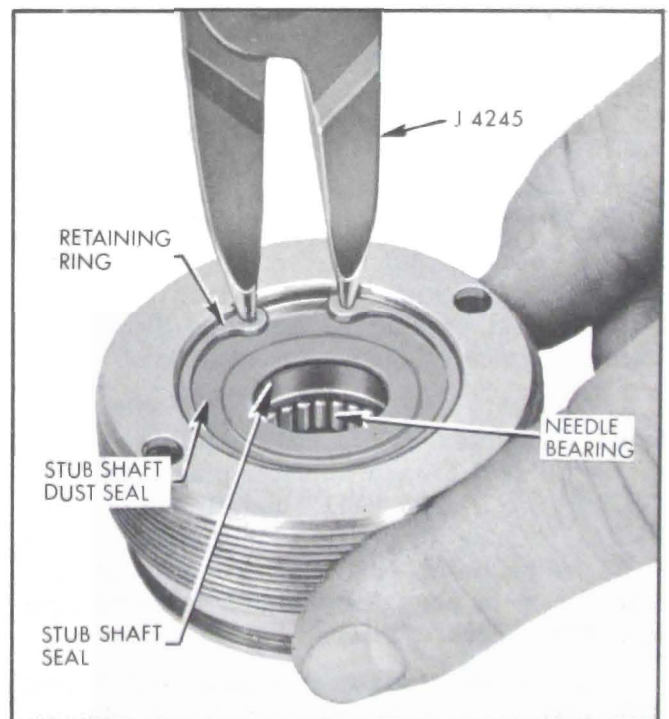

Figure 8-39—Removing Stub Shaft Seal Retaining Ring
3. Remove stub shaft seal retaining ring using No. 3 Truarc Pliers J-4245 and remove and discard dust seal. See Figure 8-39.